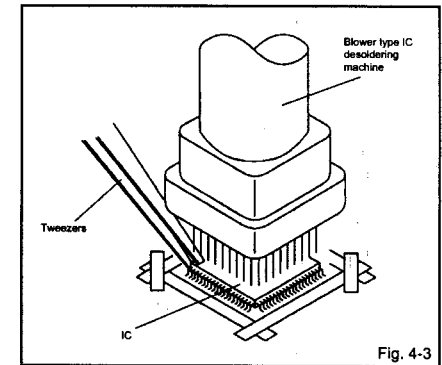

Fig. 4-3
- When IC starts moving back and forth easily after desoldering completely, pickup the corner of the IC using a tweezers and remove the IC by moving with the IC desoldering machine. (Refer to Fig. 4-3.)